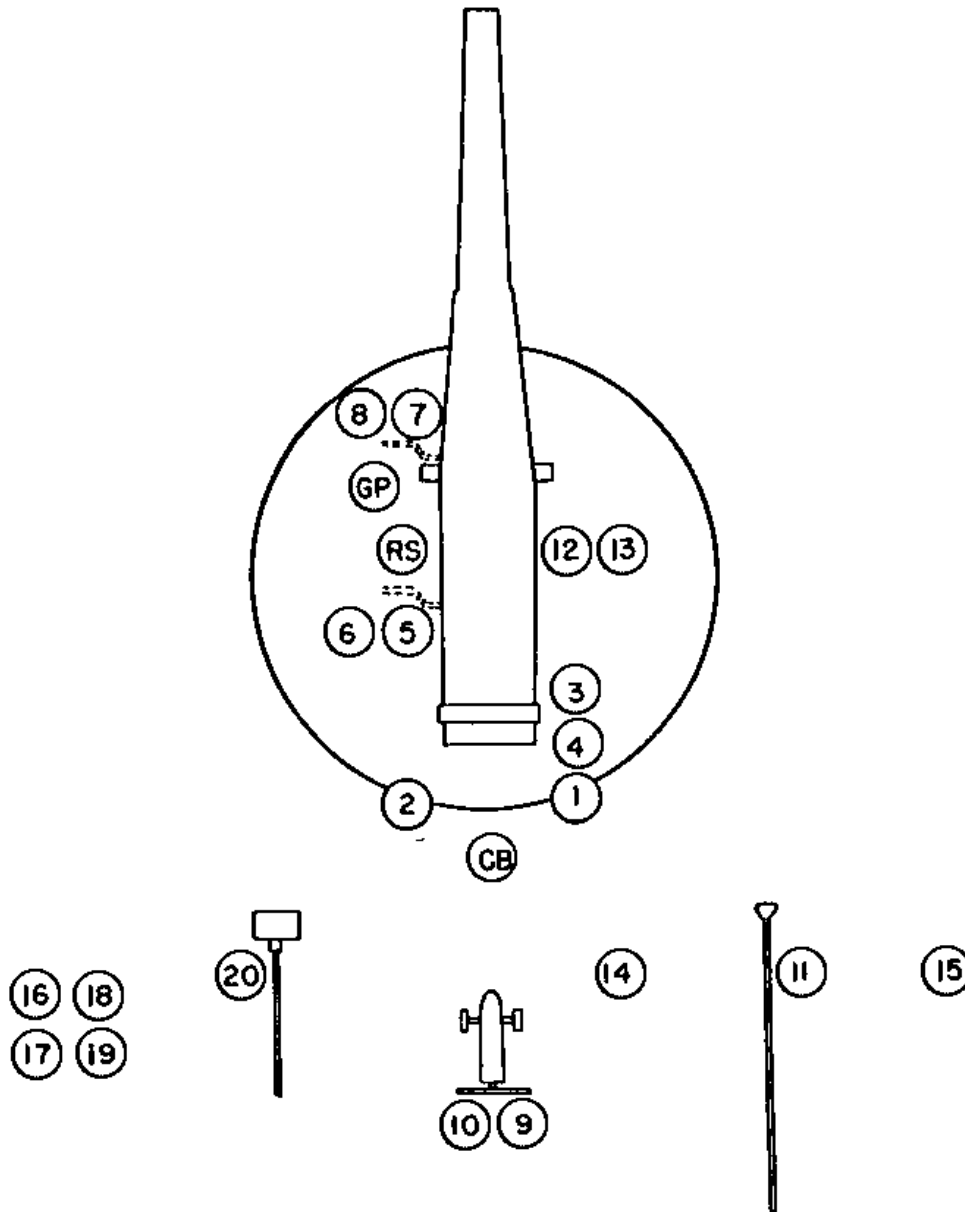

FIGURE 2.—Positions at DETAILS, POSTS.
- (1) Training and efficiency of the personnel of his section.
- (2) Condition of the matériel under his charge.
- (3) Camouflage discipline and gas discipline at the emplacement and magazines.
- (4) Observance of all safety precautions pertaining to the service of the piece at his emplacement and magazines under his charge.
- (5) Police of the emplacement and magazines under his charge.
*c.* When his section arrives at the emplacement he commands: 1. **DETAILS**, 2. **POSTS**, and supervises the procuring of equipment. After all details have reached their posts (fig. 2) he commands: **EXAMINE GUN**. He then personally makes an inspection of the gun, carriage, and other matériel, including that pertaining to the service of ammunition.